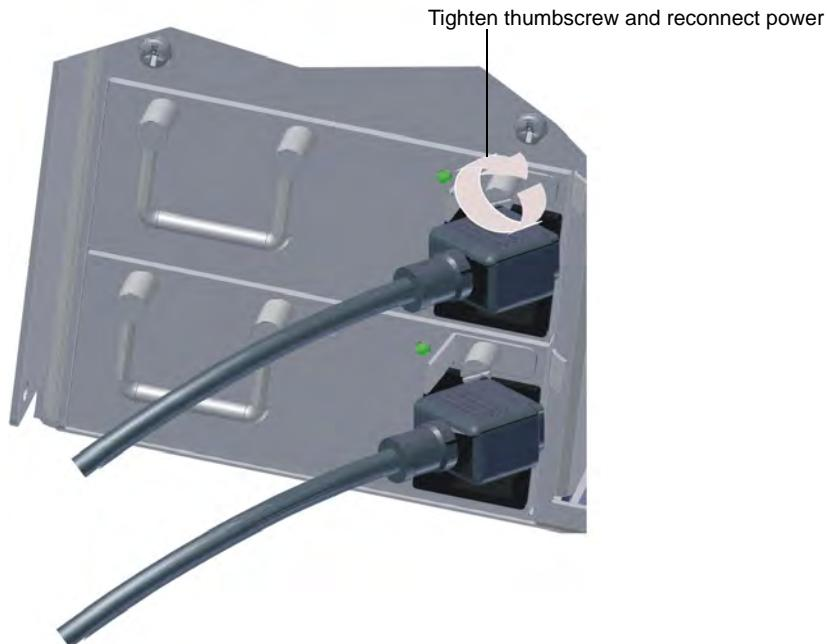

Figure 3-17 New Power Supply Installed and AC Cable Reconnected
5. Tighten the thumbscrew by turning it clockwise, and reconnect power, as shown in Figure 3-17.